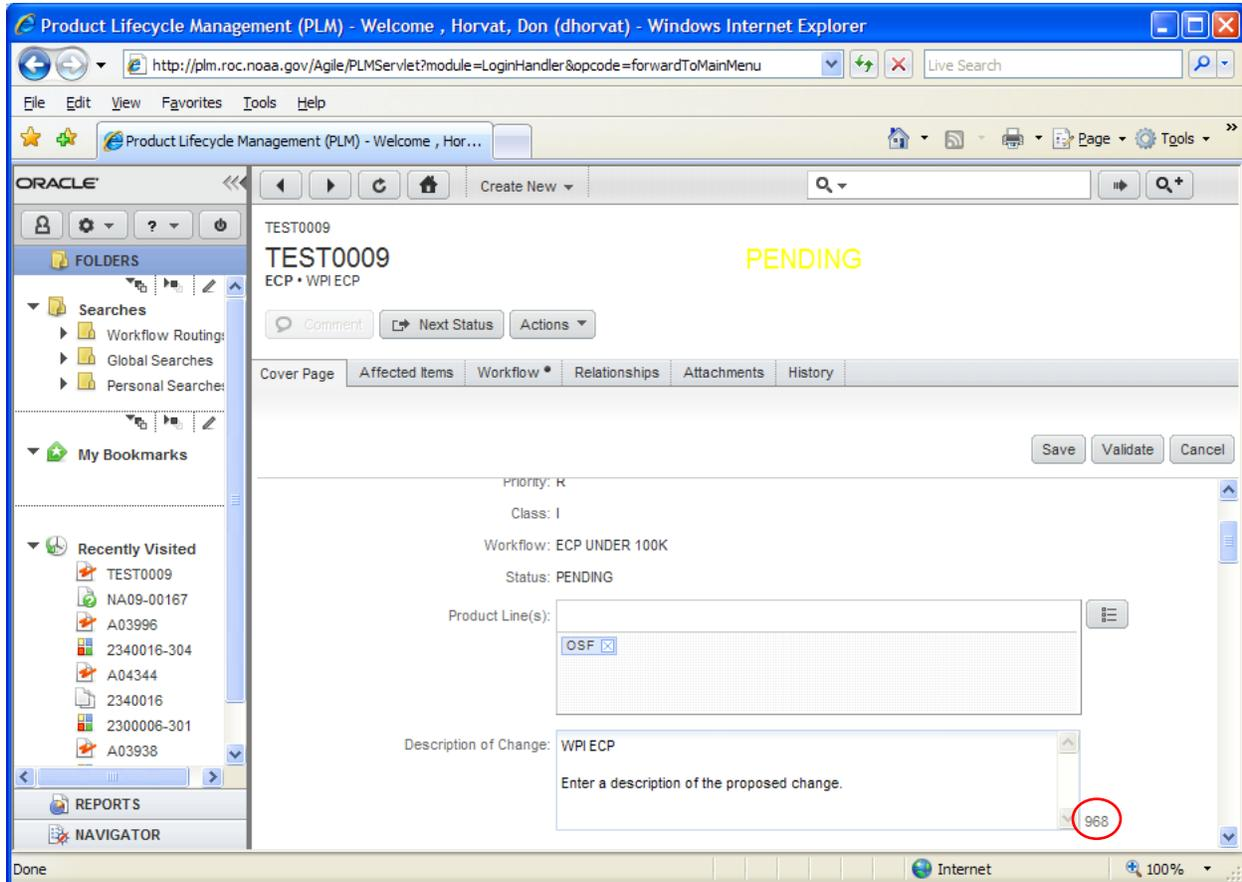

Figure 7: Character counter.
**NOTE:** Many of the blocks on the Agile ECP form have limited character lengths, thus limiting the amount of data that can be entered. (A character counter has been added to the ECP form (Figure 7).) If the text is too long, it is necessary to use an attachment in order to include all the information in the ECP.